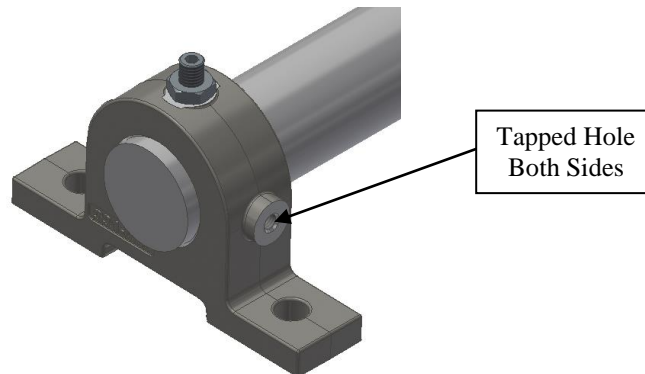

Figure 1: Pillow Block Mounting Provision
- If the rope retainers are to be mounted to the pillow blocks please verify that the appropriate 1/2 - 13 UNC tapped holes are located on the sides of the pillow blocks as shown below in Figure 1.